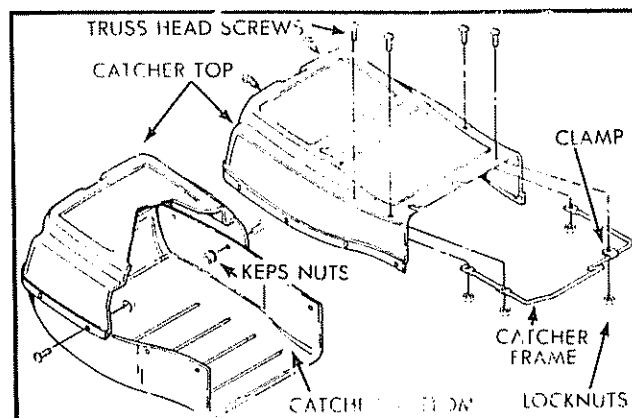

FIG. 8
1. Position clamp onto catcher frame as shown in (Fig. 8) and close ends of clamp.
2. Put grass catcher frame into catcher top (See Fig. 8).
3. Put one (1) #10-24 x 5/8 truss head screw into hole in catcher top and clamp and #10-24 locknuts. DO NOT TIGHTEN (See Fig. 8).
4. Put three (3) #10-24 x 5/8 truss head screws into the catcher frame using #10-24 locknuts. Use a flat blade screwdriver to drive screws while holding the locknuts with adjustable or 3/8" wrench (See Fig. 8).
6. Position top half of catcher on the bottom half (See Fig. 8).
8. Install the eight (8) 1/4-20 x 5/8" truss head screws with the eight (8) 1/4-20 "Keps" nuts into the holes in the catcher side.